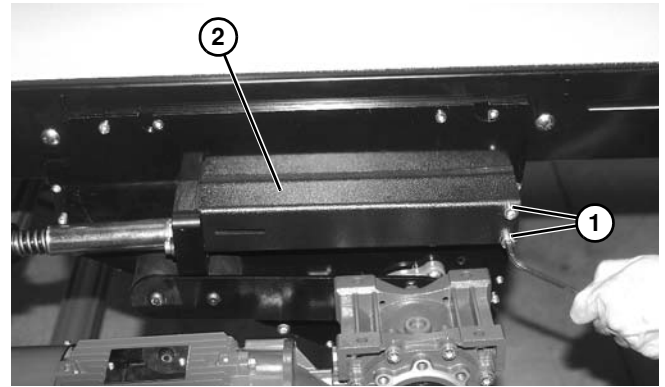

Figure 73
4. Remove two screws (**Figure 73, item 1**) and tensioning guard (**Figure 73, item 2**) from each side of center drive.